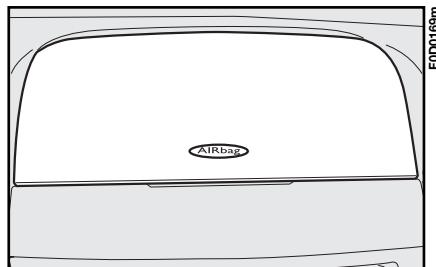

fig. 138
- in the dashboard and with a bigger cushion for the passenger **fig. 138**.